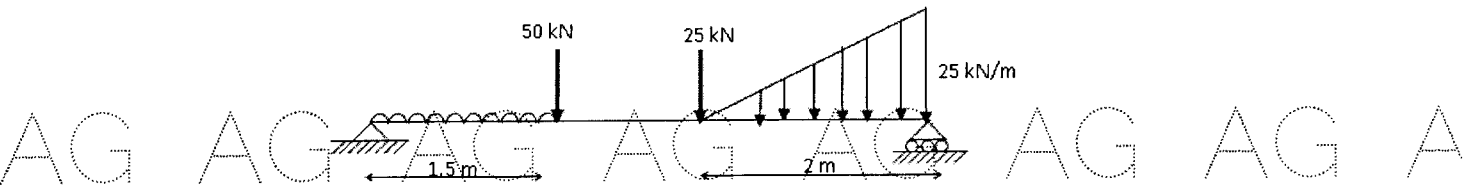

Figure 3
5. Draw the shear force and bending moment diagrams for a beam of span 5 m supported and loaded as shown in Figure 3. [10]